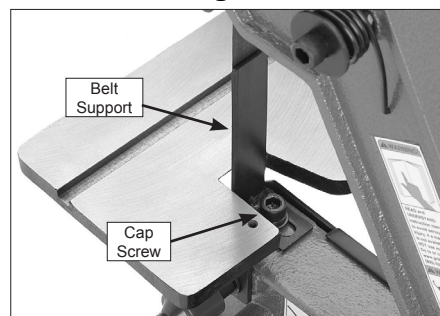

Fig.20
19. Loosen the cap screw shown in Figure 20, adjust the belt support approximately 1/16" away from the sanding belt, then re-tighten the cap screw.